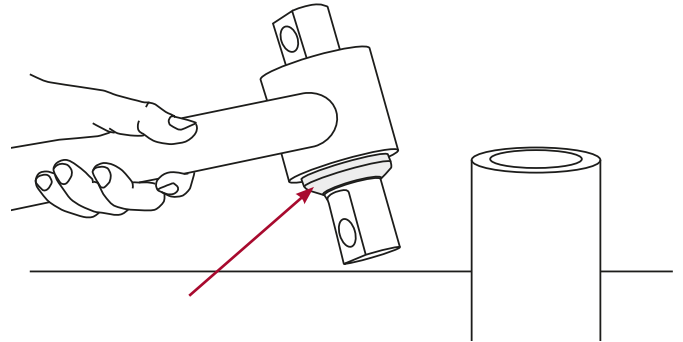

Figure 63: Overshoot Final Bush Position
5. When pressing in the new bushes overshoot the desired final position by approximately 5 mm (3/16"). Refer Figure 63.